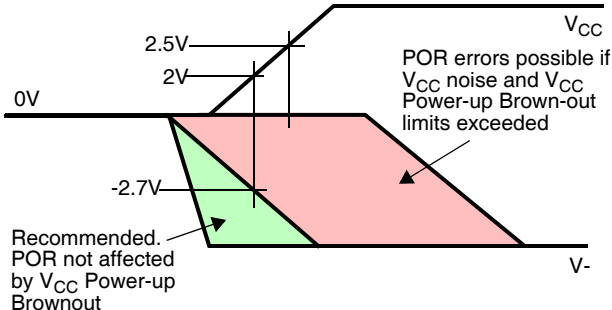

FIGURE 5. V-/V_{CC} POWER-ON TIMING
6. V₋ should be at least -2.7V as V_{CC} reaches 2V. If not, the POR circuit is more susceptible to V_{CC} noise and V_{CC} power-up brown-out conditions. See Figure 5.